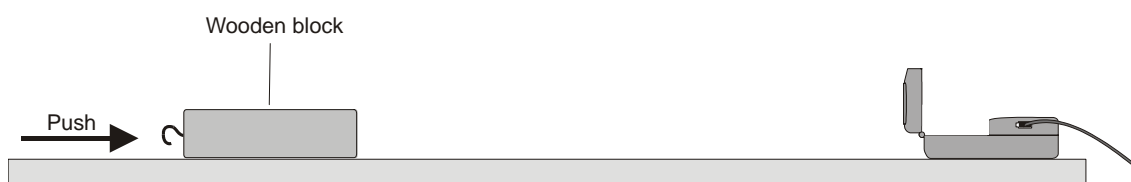

Figure 1
2. Place the Motion Detector on the lab table 2 – 3 m from a block of wood, as shown in Figure 1